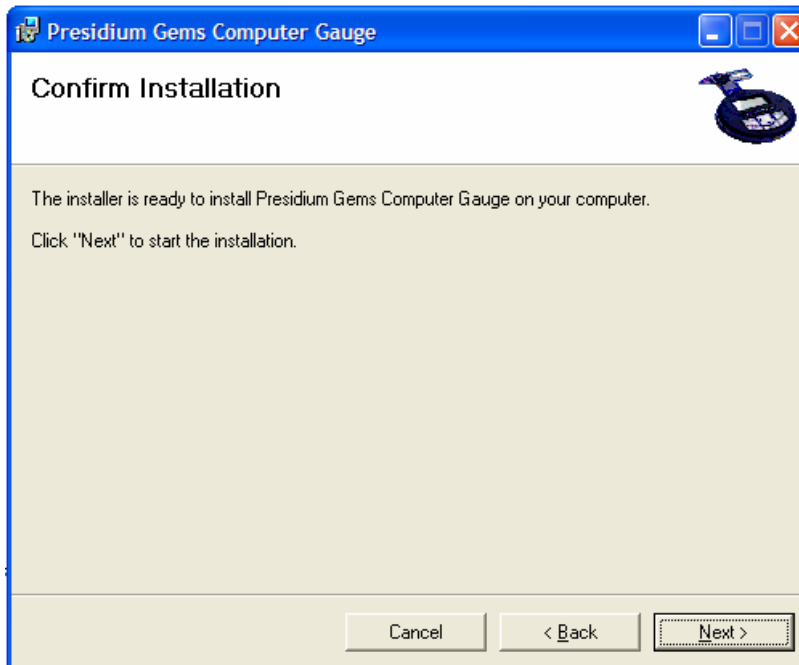

Figure 1.3
- 5) Click “Browse” to choose a folder. If you wish to install PGCG Software for anyone who uses this computer, select “Everyone” or if it is for your own use, select “Just me”. Then, click “Next” to proceed to another dialog box. Please refer to Figure 1.3 below.